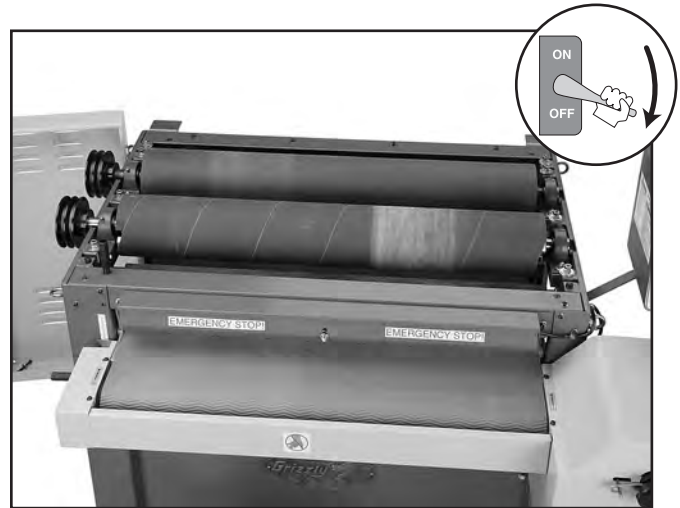

Figure 76. Drum sander with handwheel, top cover, and V-belts removed.
3. Remove V-belts. Drum sander should now look similar to **Figure 76**.